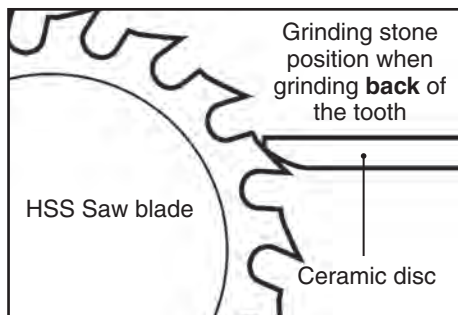

FIG.5
**Warning!** At this point, make sure that the perspex safety eye shield (5) is attached and in place on the grinding wheel cover.
- Position the blade stop (9) so that it exerts slight pressure onto the saw blade.
- With the machine connected to the mains power, press the 'ON/OFF' switch (16) to 'ON', to start the machine.
- Operate the handle (15) to move the grinding wheel towards the saw tooth and sharpen the tooth.
- When grinding the back of the saw tooth, make sure the grinding wheel and saw blade are orientated as illustrated in FIG.5 on page 14.